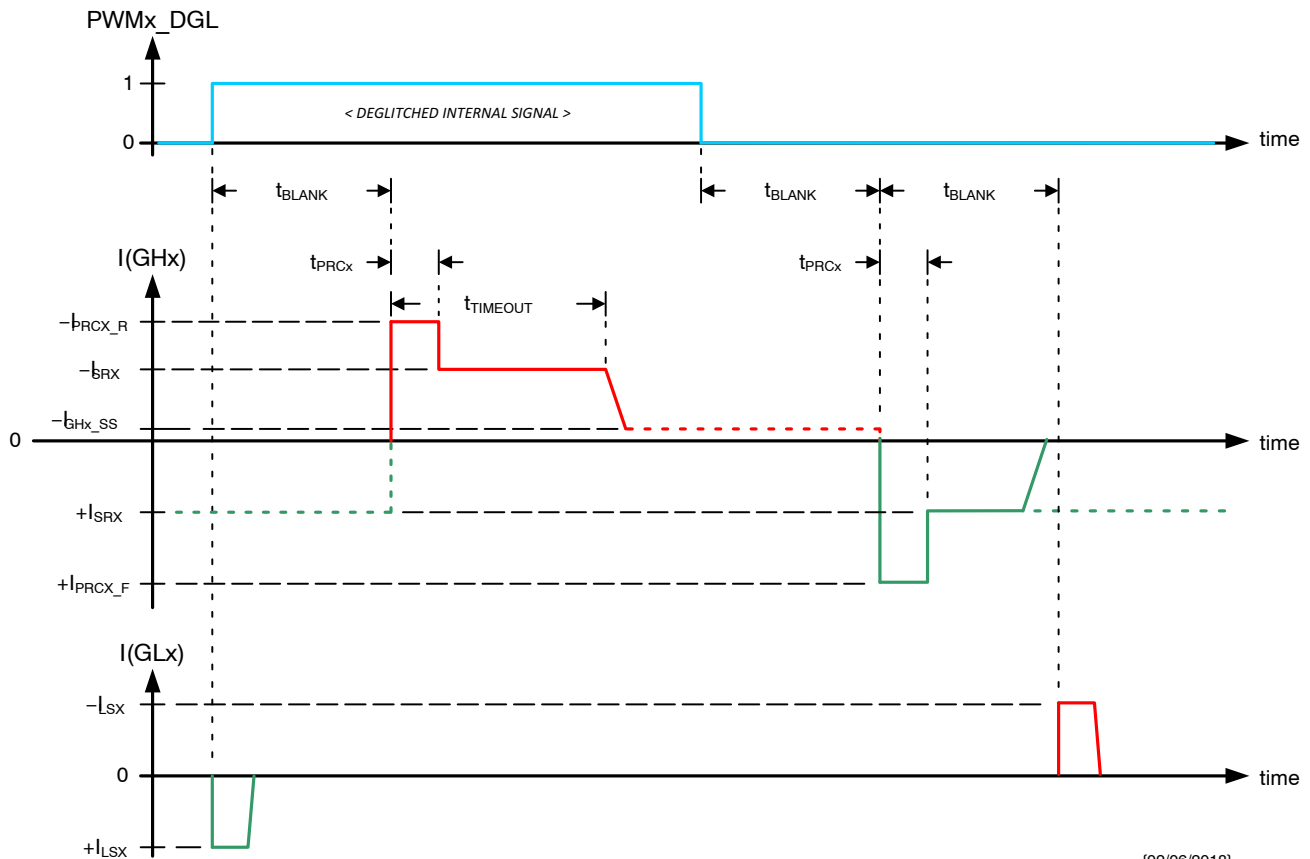
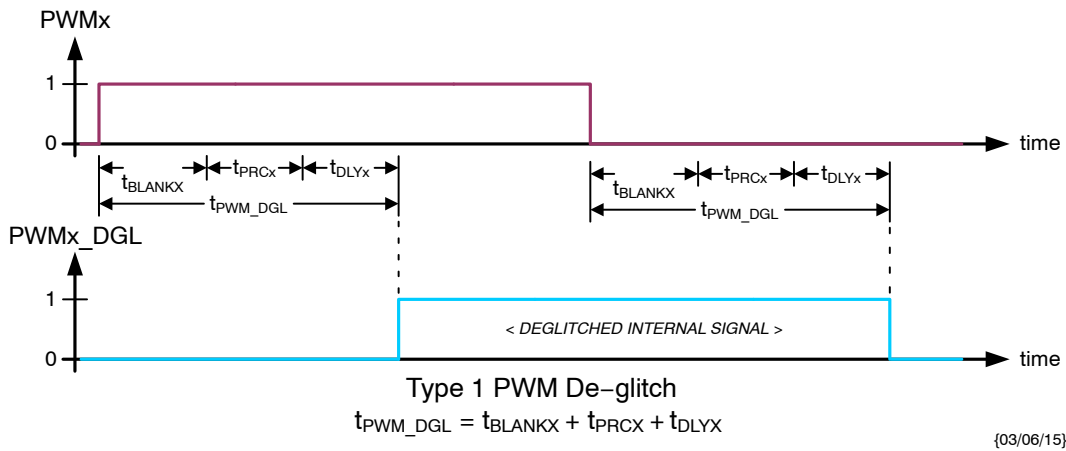
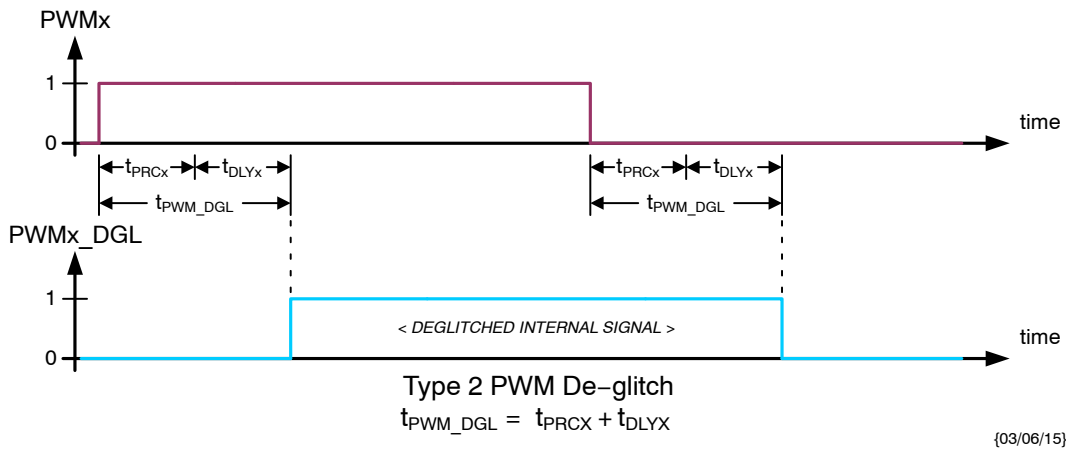
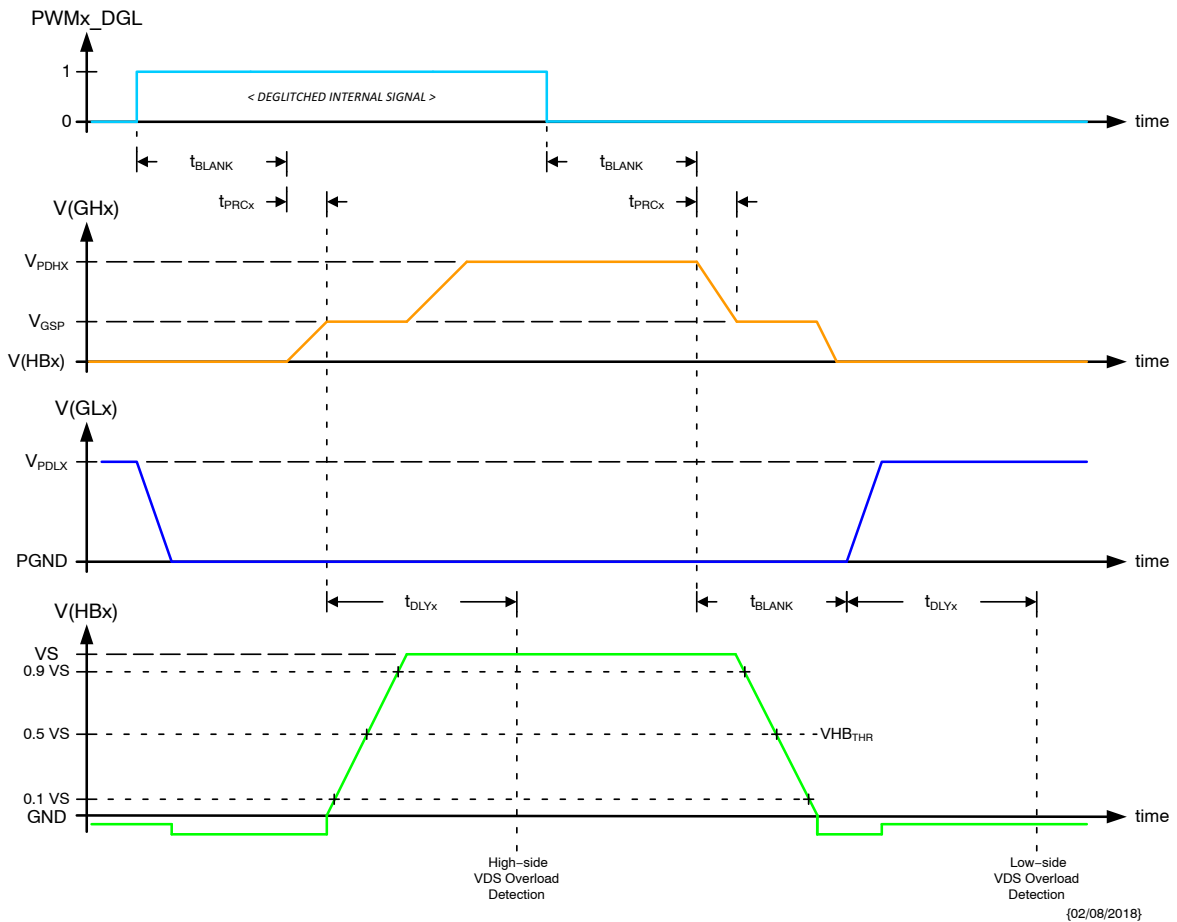

Figure 9. Gate Drive Current Evolution
Figure 10. Type 1 PWMx Input De-glitch – CR14.DGLx = 0
Figure 11. Type 2 PWMx Input De-glitch – CR14.DGLx = 1
Figure 12. HBx Output Switching in Half-Bridge Configuration
When multiple PWM_x inputs are needed to be active, the scheduled PWM signals should be offset in time to avoid degradation of the VDS overload detection due to crosstalk (see § *Overload Protection*). The minimum offset should be based on the t_{PWM_DGL} times appropriate for the respective channels (see § *Switching Behavior of Half-bridge Drivers*, Figure 10 and Figure 11).
The external high-side NMOS switches are controlled with gate pre-charge and slew phases, while the external low-side switches are controlled via simple drive stages supplying a nominal 4x multiple of the selected high-side driver slew current (see Figure 9 and § *Electrical Characteristics: Pre-driver Slope Control*). The timing for the gate drivers is provided by the digital logic, where the key parameters can be programmed via SPI in order to adapt different MOSFET types and application switching speeds.
- adaptive PWM input de-glitch construction when in half-bridge configuration is selected by DGLx[6:0] bits (see Figure 10, Figure 11, Table 21 and Table 22).
In order to not overload the charge pump circuit in case of loss of VS or in case of a disconnected security switch, the steady state output current of the high-side gate drivers is limited to I_{GHX_SS} after $t_{TIMEOUT}$ (see $I(GHX)$ in Figure 9 and § *Electrical Characteristics: Half-Bridge Pre-Driver Outputs*).
When operating in PWM mode, type 1 de-glitch is selected when CR14.DGLx = 0 (see Figure 10) and the adapted time is given by:
Type 2 de-glitch is selected when CR14.DGLx = 1 (see Figure 11) and the adapted time is given by:
When operating in PWM mode, the timing of the gate drivers is according to Figure 12.
In the pre-charge phase ($V_{GHx} < V_{GSP}$) the GHx output delivers the selected rise (I_{PRCx_R}) or fall (I_{PRCx_F}) current for the selected time (t_{PRCx}), and in the slew phase ($V_{GSP} \leq V_{GHx} \leq V_{PDHX}$) the GHx output delivers the selected current (I_{SRx}) for up to the gate drive timeout time ($t_{TIMEOUT}$). After $t_{TIMEOUT}$, the GHx output delivers the timeout current (I_{GHx_SS}). The GLx output always delivers a multiple (I_{LSx}) of the selected slew current (see Figure 9 and § *Electrical Characteristics: Half-Bridge Pre-Driver Outputs, Pre-driver Slope Control*).
- the PWM_x_DGL resulting from the channel's operating configuration (see § *Switching Behavior of Half-bridge Drivers*, Figure 10 and Figure 11);
The delay time t_{DLYX} is started after the adapted t_{PWM_DGL} at the start of the switch activation (see Figure 10 and Figure 11, and V(HBx) in Figure 12). In the case of the high-side MOS, the delay time is started at the end of the pre-charge time t_{PRCX} . In the case of the low-side MOS, the delay time is started concurrent with the GLx turn-on current (see I(GLx) in Figure 9). At the end of time t_{DLYX} the switching node voltage is compared with the appropriate VDS_{THR_R} or VDS_{THR_F} overload detection threshold (see § *Electrical Characteristics: Half-Bridge Diagnostics*).